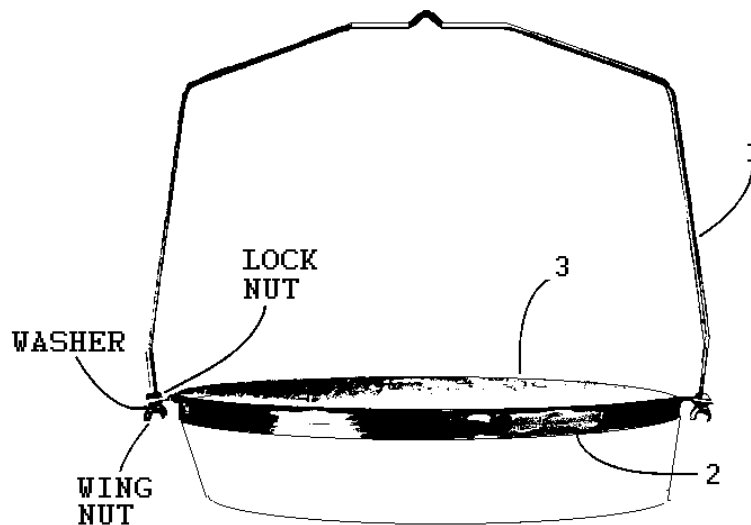

Figure 2
1. Assemble pan bail (1) and pan support ring (2) as shown in figure 2.